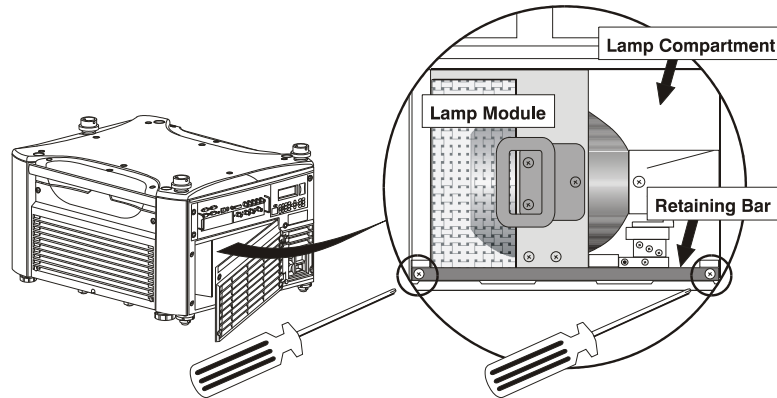

Figure 4.4. Remove Retaining Bar
Remove the two (2) screws that secure the retaining bar along the bottom edge of the lamp module using a #2 Phillips screwdriver. See **Figure 4.4**. Swing the bar aside—it is hinged on the left.